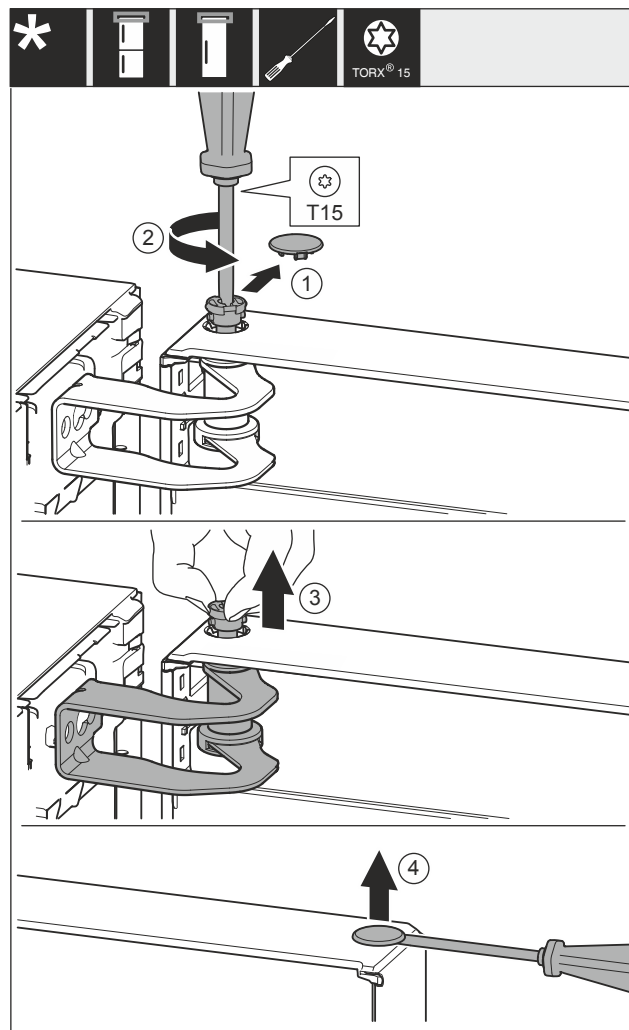

Fig. 12
- Carefully remove the cover Fig. 12 (1).
- Use screwdriver to loosen the bolts Fig. 12 (2) a little.
- Pull out the bolt Fig. 12 (3) with your fingers.
- Carefully lift and remove the cover Fig. 12 (4) with a screwdriver.